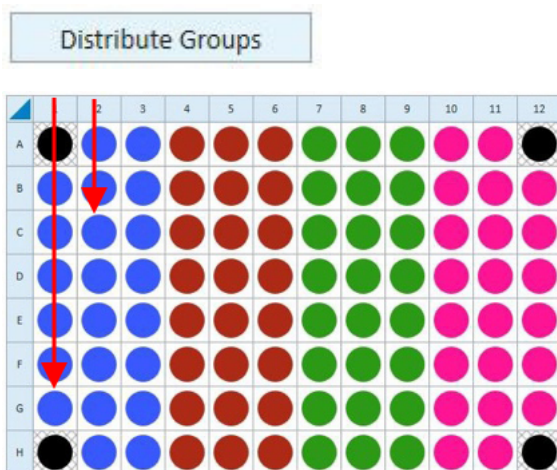

Figure 41. Distribute Groups
Click Distribute Groups. The software will automatically determine the maximum number of replicates per group, and assign wells to each group, beginning with column 1. (**Figure 41.**)
- 2 Click the well on the Plate Map to assign that individual well to the selected group. You can assign an entire row or column to a group by clicking the row or column label or drag-and-drop to select an area of the Plate Map to assign to the selected group. (**Figure 41.**)